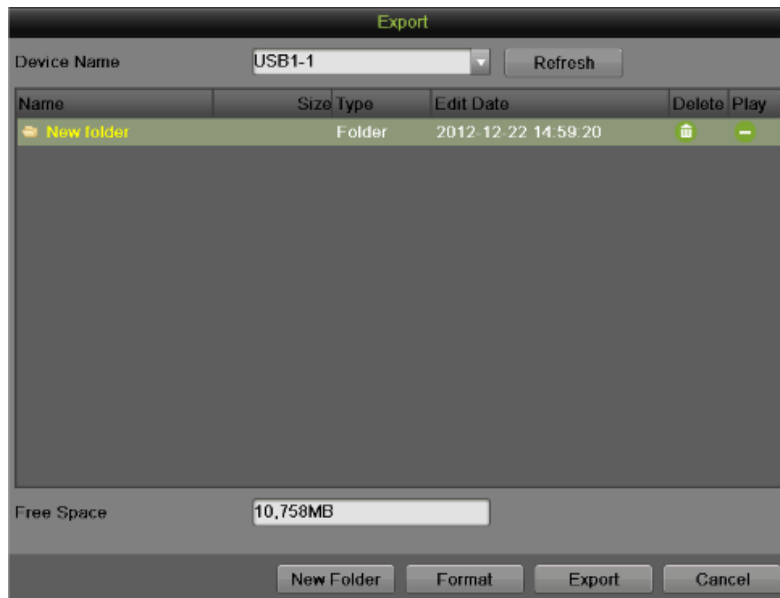

Figure 98 Files Backup Menu
4. Click the Export button; this will take you to the Export menu, as shown in **Figure 98**.